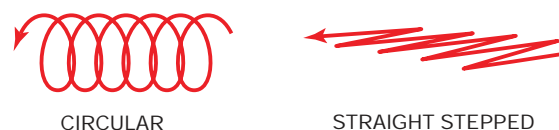

FIGURE 16-17 Weave patterns. Larry Jeffus
- Weave pattern—Refers to a side-to-side or circular pattern that the torch is moved in as the weld progresses along the metal surface, Figure 16-17. The wider the weave pattern, the wider the weld bead produced, and the narrower the weave pattern, the narrower the weld bead produced.